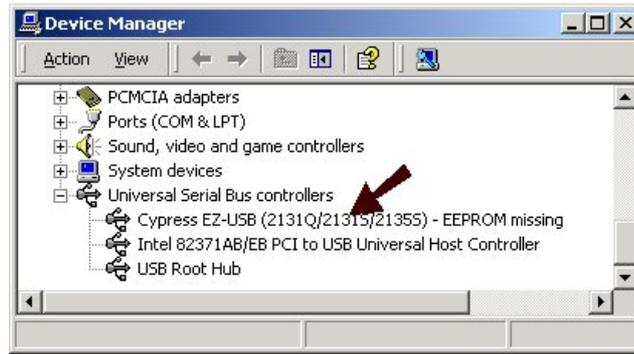

Figure 17: Device manager entry
- Verify the correct installation of the USB controller by calling the device manager ([start] [settings] [control panel] [system] [hardware] [device manager]) shown in Figure 17.